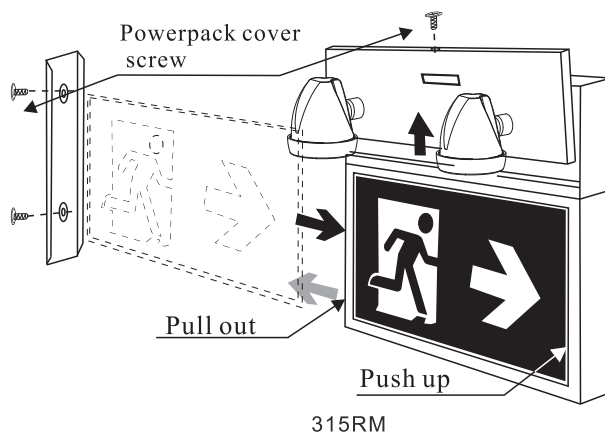

Fig.2
5.1.4. For installation directly over the electrical junction box, the sign is supplied with universal spider knockouts and keyhole slots stamped into the back of the powerpack. Alternatively, conduit knockouts are stamped into Steel frame rear cover for surface wire conduit connection. Knock out the appropriate hole(s) and bring wires through the hole(s) and into the powerpack (Fig. 2).
5.1.5. Mount the unit securely into place. Do not rely on the electrical connections as the only support for the unit; use supplied keyhole mounting slots (Fig. 2).